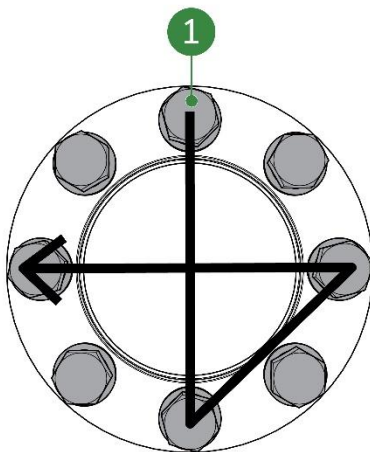

Figure 8-16: Crosswise tightening
14. Place and tighten (crosswise) (Figure 8-16, pos. 1) the bolts and washer at 4.2 Nm (8x).